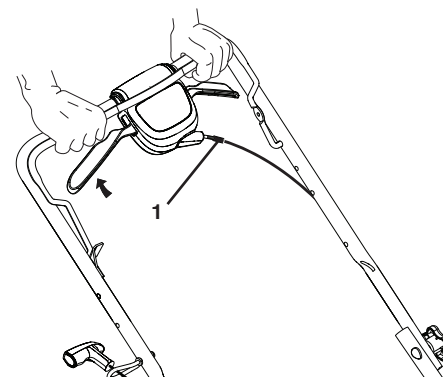

Figure 8
2. Rotate turnbuckle on drive control to increase drive speed (Figure 8).